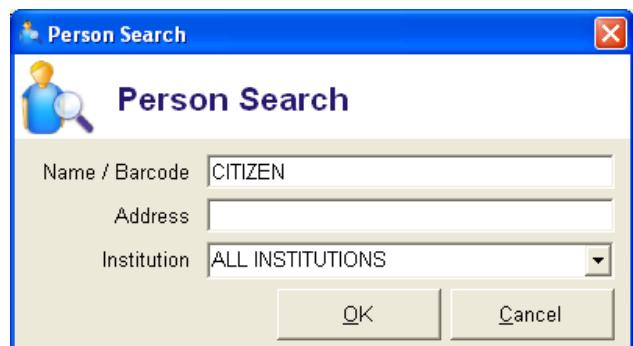

Figure 117
4. This will display the 'Person Search' window (see Figure 117).